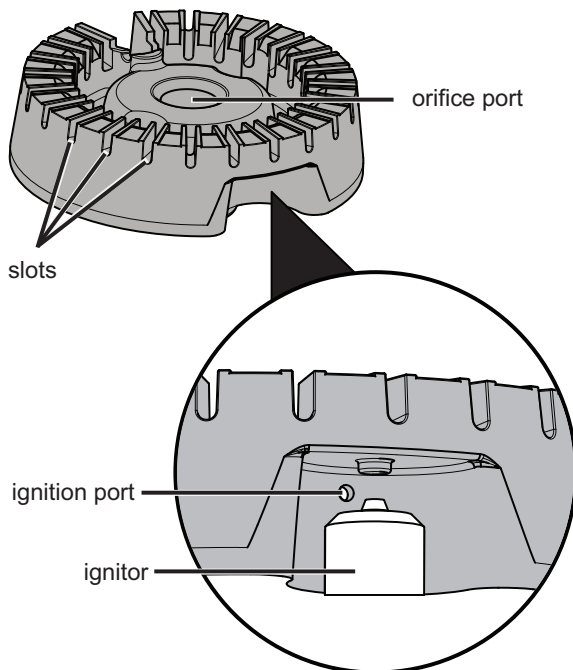

Figure 21: Sealed burner components
3. Use a toothbrush to clean all over the burner head (see Figure 21).
4. Use the toothbrush to clean the slots and holes in the burner (see Figure 21).
5. Use a needle or fine wire to clean out the ignition port (see Figure 21).